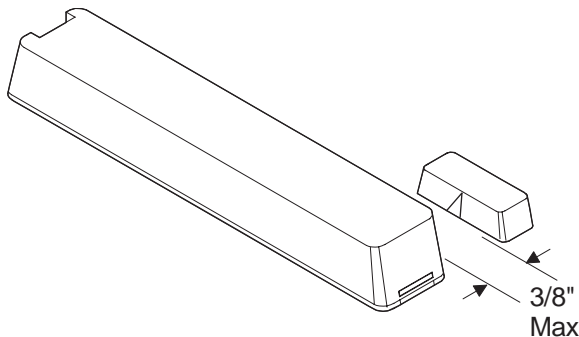

Figure 3. Aligning the Sensor and Magnet
- Mount magnet base within 3/8 in. of the sensor base, centered on the notch or tab. Use two #6 x 1/2 in. pan head screws or #18 x 1/2 in. wire nails (see Figure 3).